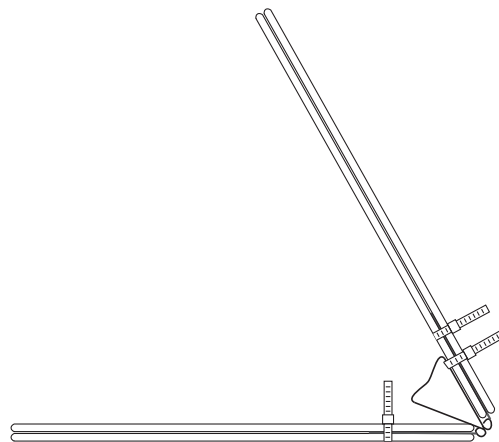

Figure 7.
4. Insert a third cable tie through the binder clip and around two tongue depressors, pulling the cable tie as tightly as possible (see Figure 7).